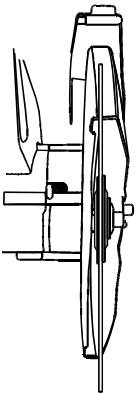

Figure 10
- Lift the guard fully upward until it exposes the arbor cap screw. (Figure 10)